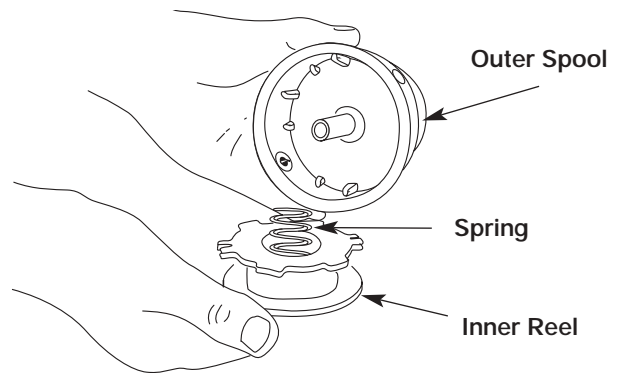

Fig. 16
2. Remove the inner reel from the outer spool (Fig. 16).
3. Remove spring from the inner reel (Fig. 16).
1. Hold the outer spool with one hand and unscrew the bump knob clockwise (Fig. 16). Inspect the bolt inside the bump knob to make sure it moves freely. Replace the bump knob if damaged.
2. Remove the old inner reel from the outer spool (Fig. 16).
3. Remove the spring from the old inner reel (Fig. 16).